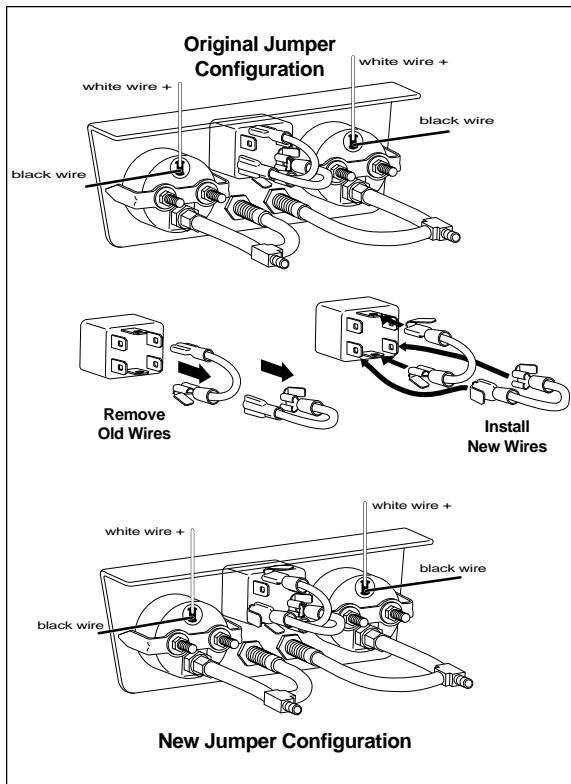

Figure 2
1. Select a convenient, sturdy mounting location for the gauge panel, usually next to the existing gauge panel (Figure 2).
1. Two new jumper wires are provided with this kit to replace the ones on your existing gauge panel. Remove the leads from the compressor and from the power source, noting which terminal on the gauge panel each lead is connected to. Remove the old jumper wires and install the new ones (Figure 2). Connect the leads from the power source and the compressor.